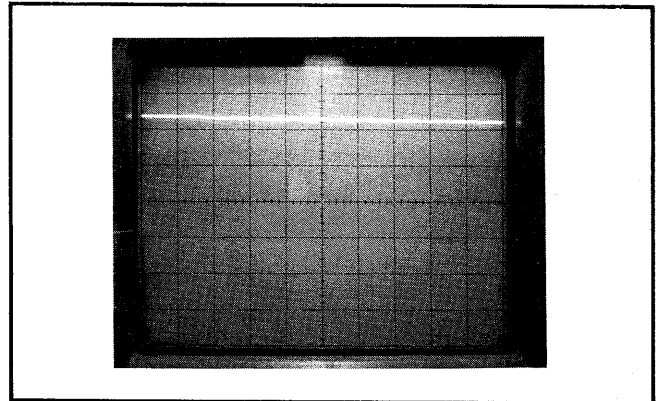

Figure 5-29. Narrow-Band Sweep, Leveled Power
1. On network analyzer, press Channel A .5 dB PER DIVISION. The trace should appear on the top half of the display (Figure 5-29).
- o. If the trace goes unlevelled, adjust A10R62 until it becomes leveled (Figure 5-29).